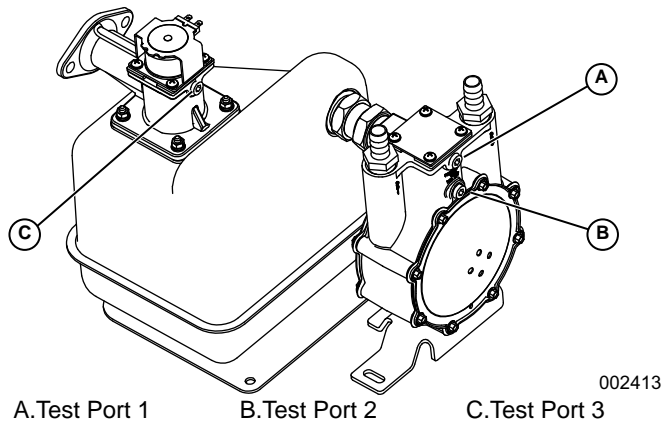

Figure 4-31. Gas Pressure Test points
1. See **Figure 4-31** for the gas pressure test point on the fuel regulator. The fuel pressure can be checked at port 3.
1. Install a manometer to port 2 on the fuel regulator. See Figure 4-31.